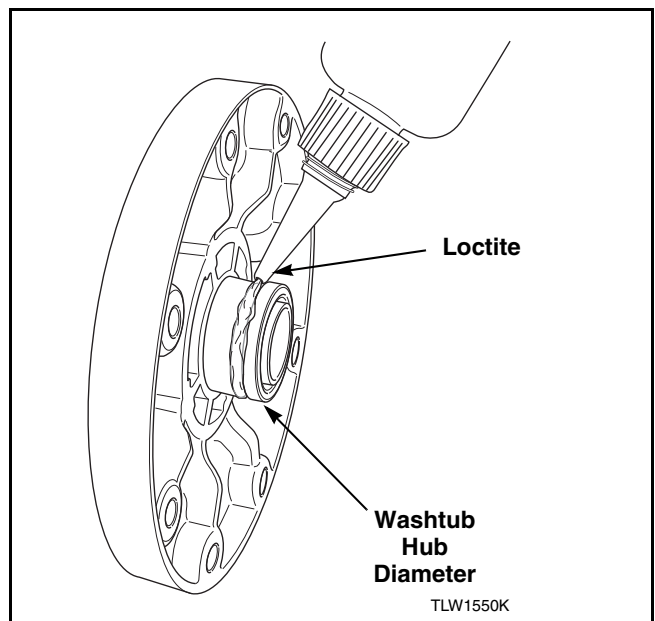

Figure 67
- y. Inspect washtub hub diameter for grease. Clean with a cloth and isopropyl alcohol (rubbing alcohol). Refer to *Figure 67*.
- z. Apply a small, continuous bead of Loctite 680 (supplied in kit) all the way around the washtub hub diameter that contacts the metal shroud of the outer tub lip seal. Refer to *Figure 67*.